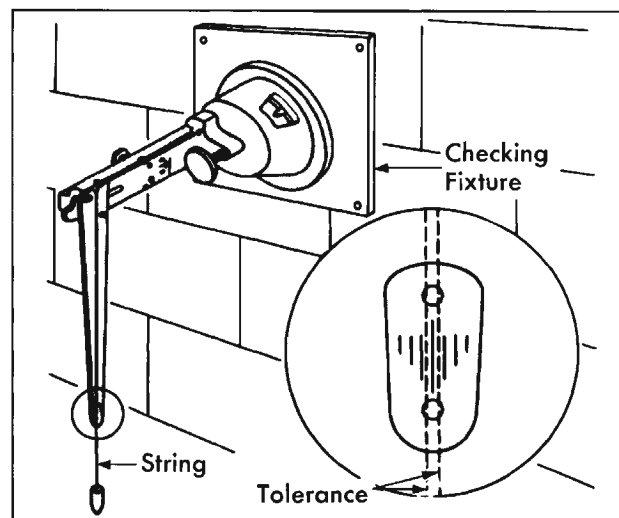

Fig. 14-74 Checking Horizontal Calibration
3. The horizontal check of the aimer is made by placing the aimer on the board as in the vertical check, except that the horizontal arm is pointing toward the floor as shown in Fig. 14-74. With a small weight or plumb bob on one end of a three-foot string, connect the opposite end of the string to the slot in the aimer
arm. The string should fall as shown, inset, Fig. 14-74. If it falls outside the tolerances shown, the aimer should be replaced.